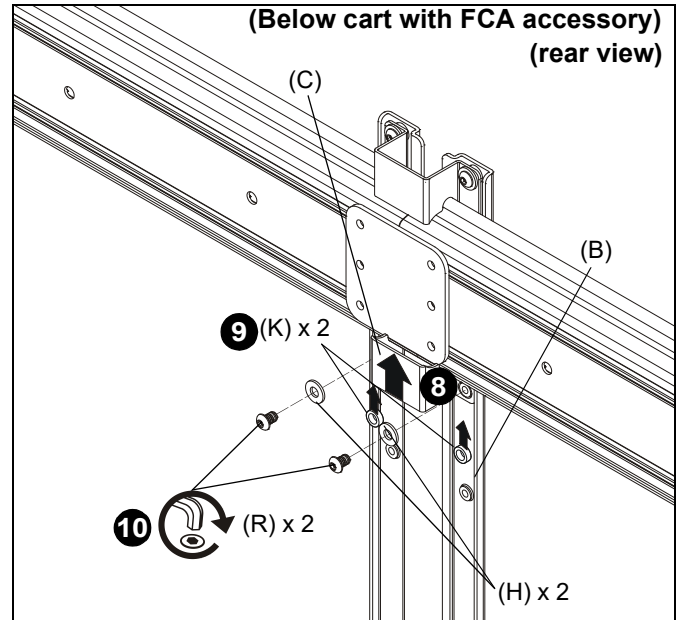

Figure 10
8. Slide second shelf bracket (C) underneath head assembly, lining up holes on shelf bracket (C) to holes on main bracket (B). (See Figure 10)
9. Slide two 3/5" spacers (K) in between shelf bracket (C) and main bracket (B). (See Figure 10)
10. Use two 1/4-20 x 7/16" button head cap screws (R) and two large washers (H) to secure shelf bracket (C) to main bracket (B). (See Figure 10)